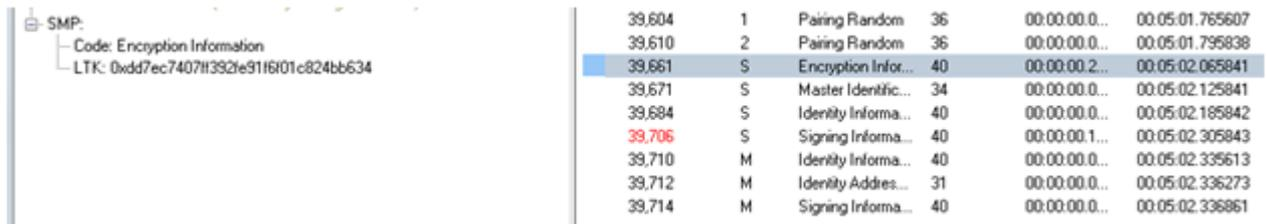

Figure 11 - SMP Key Distribution Frames
The Link Layer (LL) protocol manages the *Bluetooth* low energy radio transmissions and is involved in starting link encryption. To observe the decoded LL commands, click on the **Frame Display LE LL** tab, search for and select ControlPkt “LL_ENC_REQ”. This command should originate with Side 1, the initiator of the encryption link. In Figure 11 Frame# 39,617 is selected in the Summary pane and we see the decoded LE LL frame is display in the **Decoder** pane. Shown in this frame packet is the SKDm that is the Master Session Key Diversifier (SKDmaster). In Frame# 39,623 you will find SKDslave that is combined with SKDmaster to create the Session Key (SK). Both SDKs were created using the LTK. Frame# 39,635 through 39,649 in the **LE LL** tab completes starting of the encryption process. After the slave sends LL_START_ENC_RSP (Frame# 36,649) the *Bluetooth* devices can exchange encrypted data, and the ComProbe sniffing device can also receive and decrypt the encrypted data because the appropriate “key” is provided in the **BPA 600 Datasource** window.